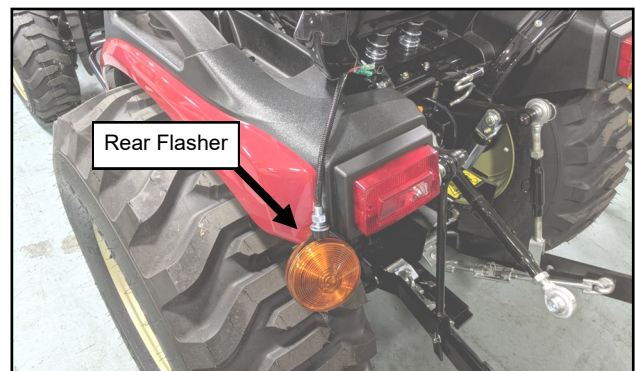

Fig. 1.8 (Move Rear Flashers)
- 1.8 Loosen the nuts on the rear flashers and slide them out of the brackets. Keeping the wires attached, let the flashers rest on the rear fenders out of the way. See Figure 1.8.